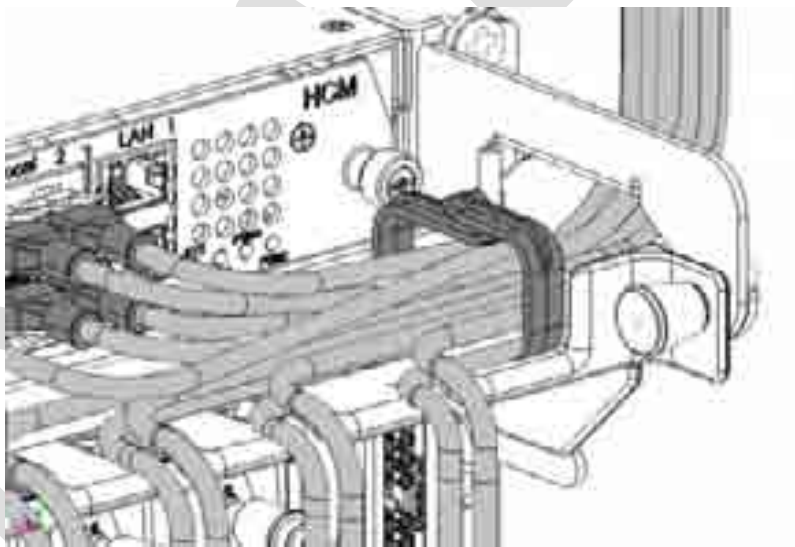

Figure 5-33. Closed Management Tray
3. Close Management Tray (as shown in Figure 5-33)